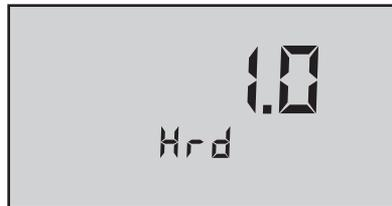

Figure 54
3. Press  to accept the change. The LSI calculator will resume in the **Hrd** screen. The unit change will be reflected on the display (see Figure 54).